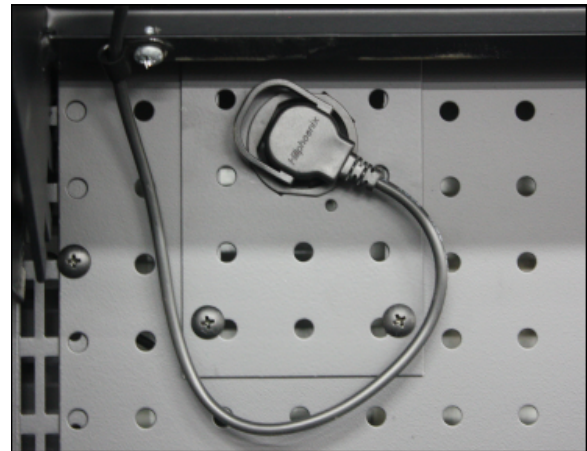

Fig. 13 LED light power cord
1. Unplug the luminaire (Fig. 13).